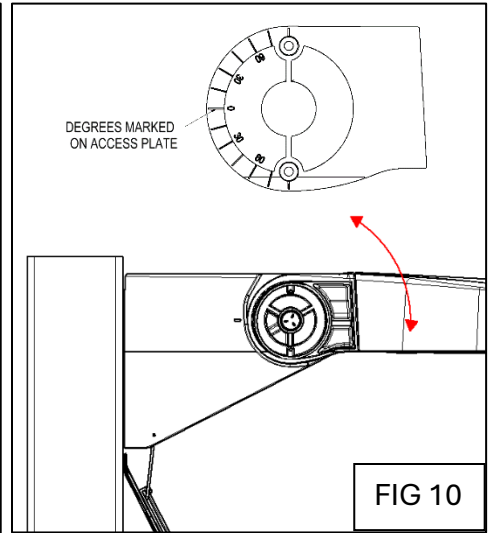

FIG 10
11. Loosen the 1/2-13 bolt and aim the arm at desired angle. Retighten bolt to 25 FT-LB (FIG 10).